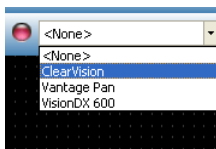

Figure 14: Selecting ClearVision™ Sensor in Progeny Imaging
- Select ClearVision as shown on Figure 14.